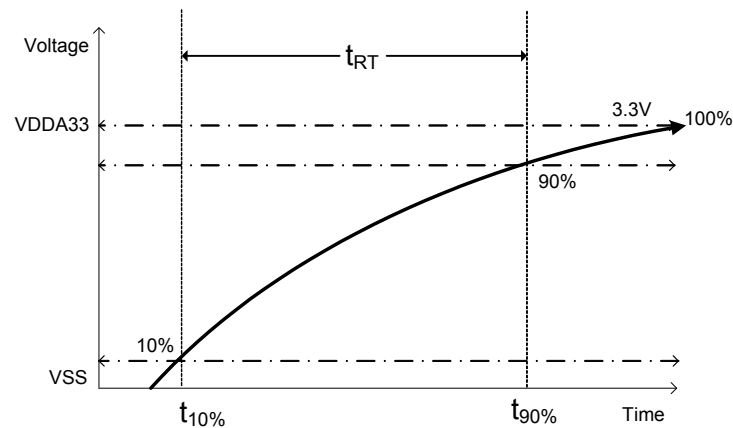

**Figure 9.1 Supply Rise Time Model**
**Note 9.4** The power supply rise time requirements vary dependent on the usage of the external reset (RESET\_N). If RESET\_N is asserted at power-on, the power supply rise time must be 10mS or less ( $t_{RT(max)} = 10mS$ ). If RESET\_N is not used at power-on (tied high), the power supply rise time must be 1mS or less ( $t_{RT(max)} = 1mS$ ). Figure 9.1 illustrates the supply rise time requirements.